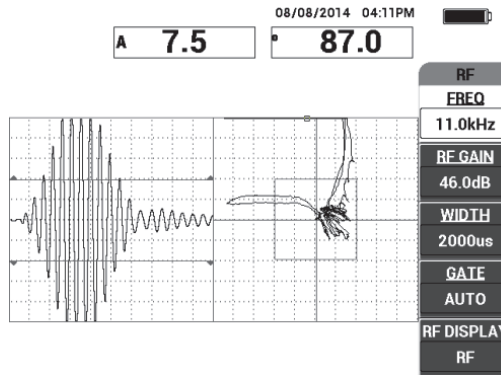

Figure 6-4 Detecting the far-side and near-side disbonds
4. Scan over the far-side and near-side disbonds, and then, while you keep the probe moving over the disbonds, ensure that both defects are detected (see Figure 6-4 on page 133).